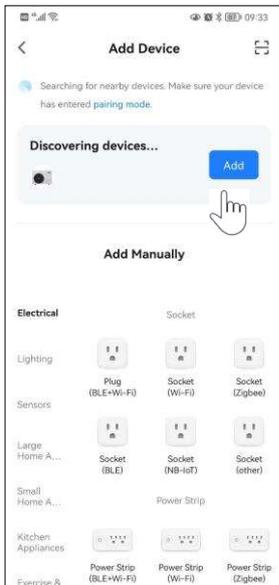

Fig.13 Searching for devices
- After that, the system automatically searches for nearby devices. Click the <Add> button to add the device (Fig.13);